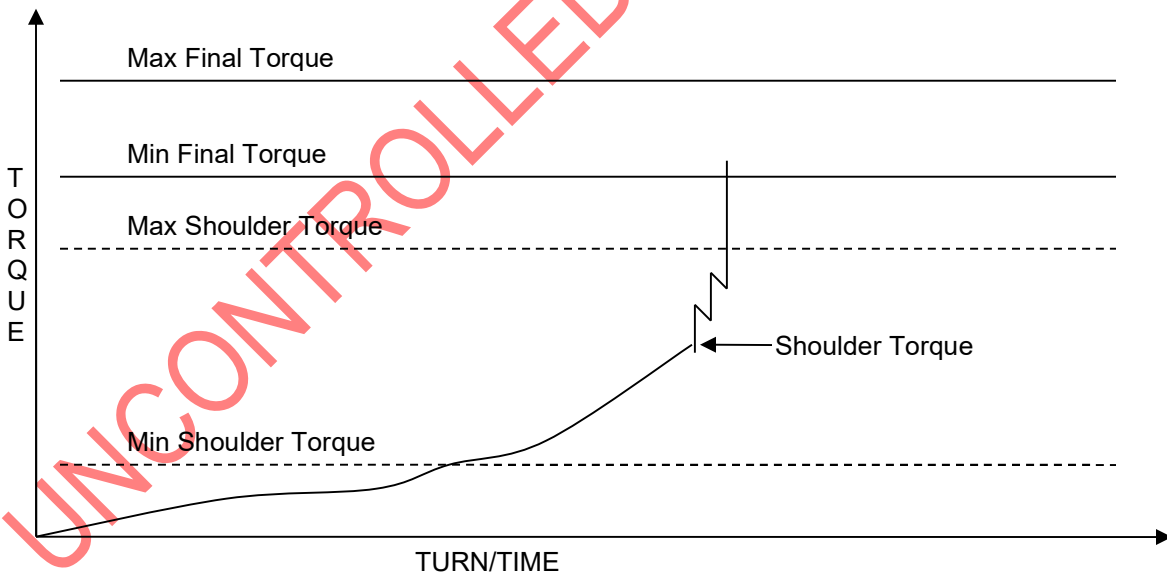

Figure 6: Interrupted rotation during make-up (Breakout and evaluate)
- 8.1.2.5.** Interrupted rotation during make-up (figure 6). A connection with this signature shall be broken out and inspected as outlined in section 7.1.3.